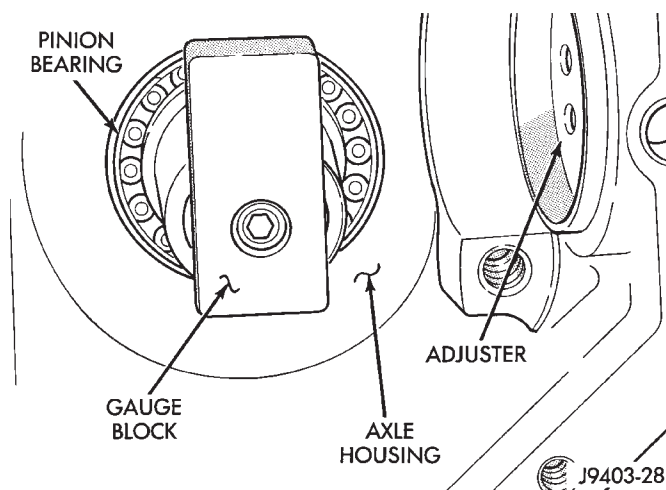

Fig. 54 Gauge Block
(11) Tighten the nut to seat the pinion bearings in the housing. Allow the sleeve to turn several times during tightening to prevent brinelling bearing cups or bearings.
(12) Loosen the compression nut tool.
(13) Lubricate the pinion gear front and rear bearings with gear lubricant.
(14) Re-tighten the compression nut tool to 1-3 N·m (15-25 in. lbs.) torque.
(15) Rotate the pinion gear several complete revolutions to align the bearing rollers.
(16) Install Gauge Block (Fig. 54).